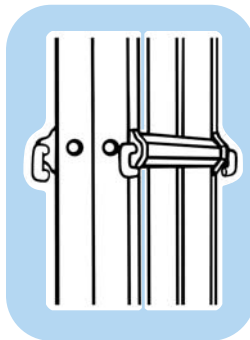

Figure F-3
3. Grasp both outer ladder bases (see figure F-3).